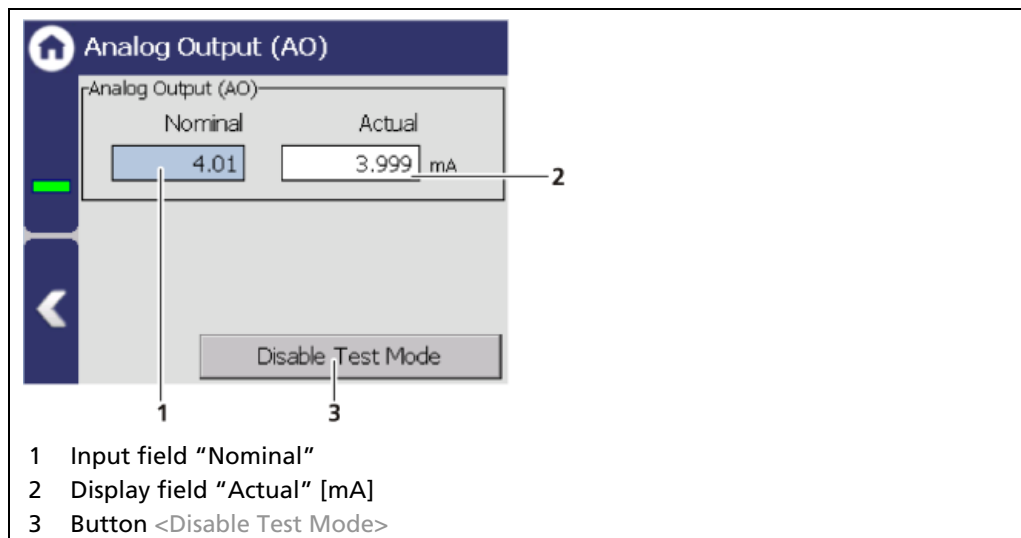

Fig. 116 Simulation Analog Output
1. Click on the input field (Fig. 116, item 1) and enter the target value for the simulation.
3. Click on the <Disable Test Mode> button (Fig. 116, item 3) to stop the simulation.